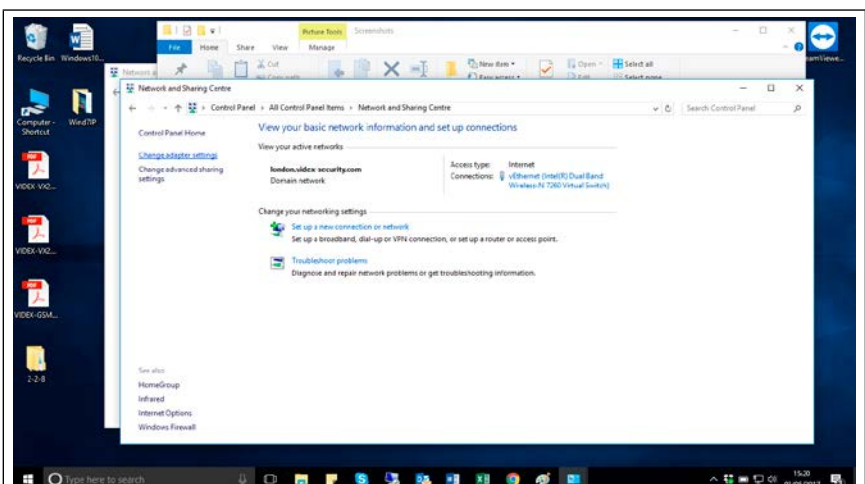
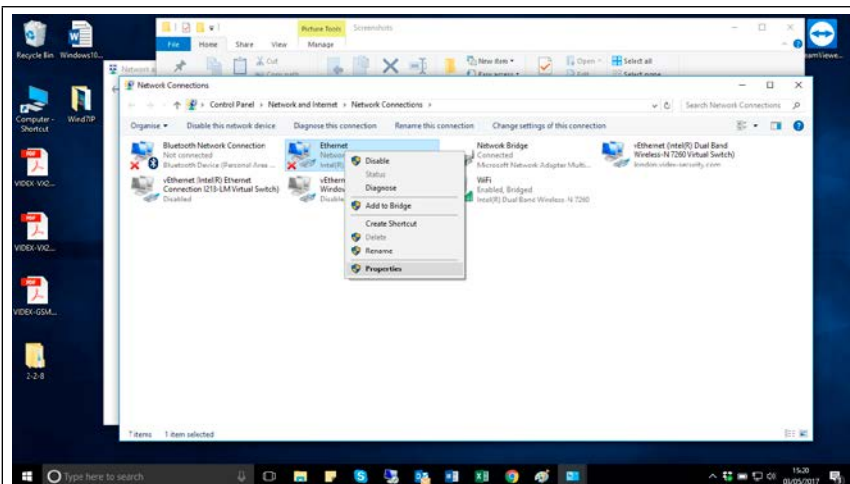

Fig. 3 Select "Change adapter settings"
Fig. 4 Edit network card properties
3. Put the base of the unit on the wall at approx 135cm from the finished floor (Fig. 3) to mark the points for the fixing holes (B) (Fig. 4) remembering that the wires (E) (Fig. 4) must be fed through the hole (F) (Fig. 4). If you use the flush mounting box 503, embed it into the wall vertically at approx. 140cm from the finished floor and the base.
4. Following Fig. 4, make the holes (B), insert the wall plugs (C) and fix the base with the screws (D) feeding the wires (E) into the hole (F). If you have used the box 503, fix the base to the wall through the holes (G) using the screws (D).